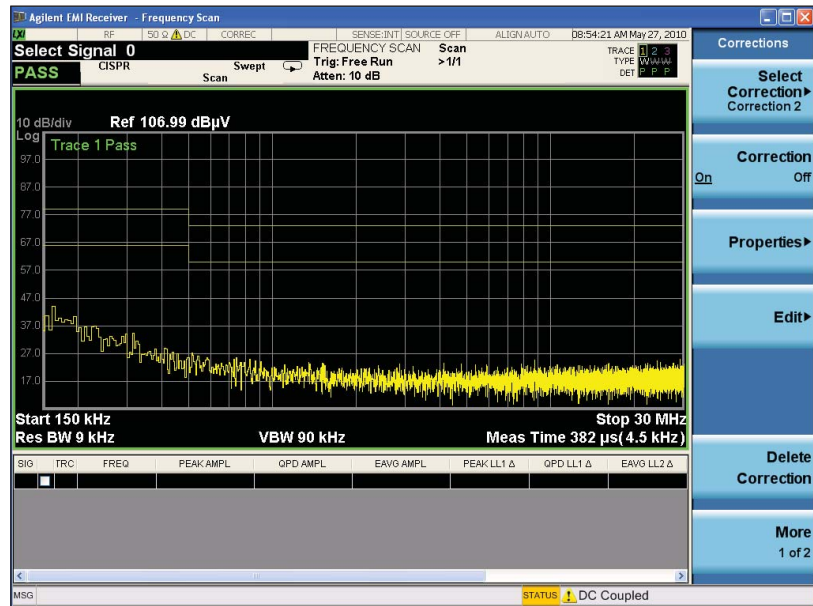

Figure 7. Conducted ambient emissions
4. Correct for the LISN and the transient limiter which is used to protect the input mixer. The correction factors for the LISN and transient limiter are usually stored in the signal analyzer and they can be easily recalled. View the ambient emissions (with the DUT off). If emissions above the limit are noted, the power cord between the LISN and the DUT may be acting as an antenna. Shorten the power cord to reduce the response to ambient signals. See Figure 7.